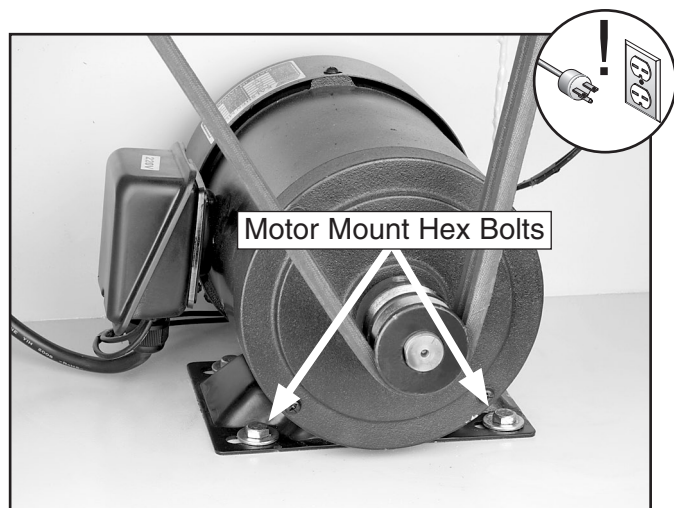

Figure 49. Motor mount hex bolts.
5. Use a 12mm wrench to loosen the four motor mount hex bolts (see **Figure 49**).